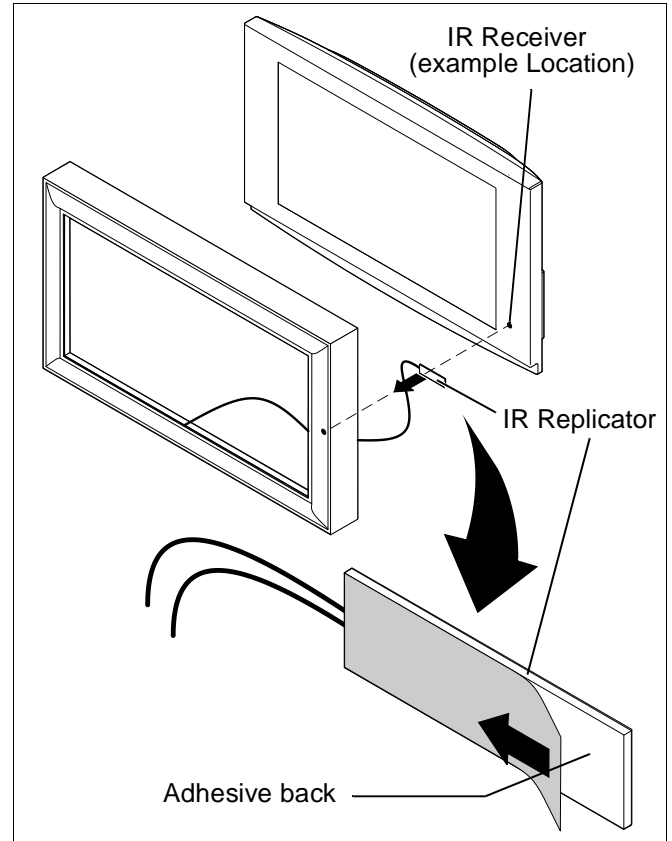

Figure 6
10. Locate IR receiver on display. (See Figure 6)
11. Remove protective cover from back of IR Replicator. (See Figure 6)
12. Position IR Replicator inside frame so that when frame is mounted on display the IR Replicator is positioned directly in front of IR Receiver on display. (See Figure 6)